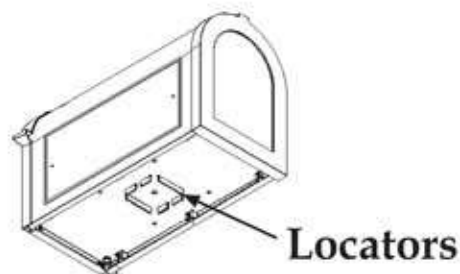

Figure 3
- 1) Apply a small amount of Silicon Sealer (D) around the inside and outside of the center mounting hole of your Mailbox. (See Figure 3)
- 3) Reach inside the mailbox and place the large bolt (provided) in the large center hole in the base plate of the mailbox. (See Figure 3)